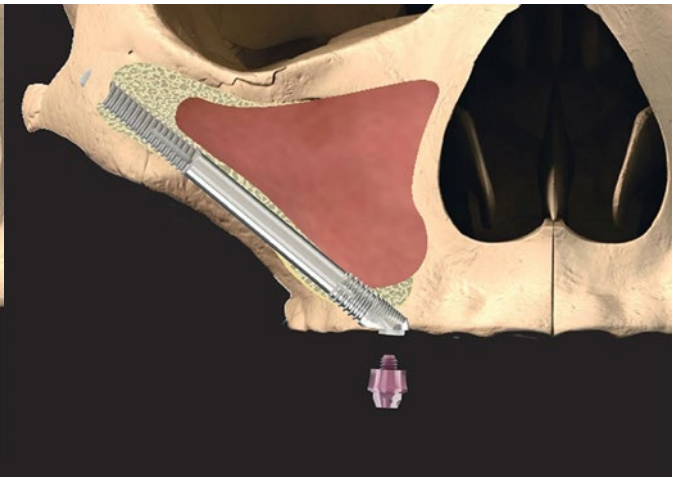

Figure 12
10. Should sufficient primary stability not be achieved for the implant, a cover screw (CH-CS) is placed with the dedicated driver (I-CS-HD) for a two-stage protocol. For immediate loading, a screw-retained abutment (CH-SRA) with an appropriate gingival height is picked up and placed with the dedicated screwdriver (046.401/ 046.411) (Figure 12). Suturing is then carried out according to the surgeon's preference.